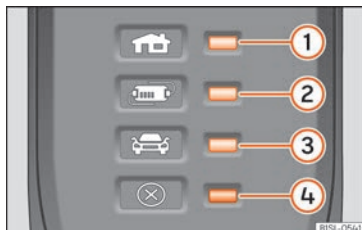

Fig. 219 On the charging cable for power sockets: Indicator lamps on the protection device.
»» Fig. 219:
The electronic protection device »» Fig. 219 ensures that the charging connector does not receive current until it is plugged in to the vehicle's charging connector.
One or more indicator lamps »» Fig. 219 ①, ② or ③ light up green. »»
Display »» Fig. 219	Meaning
If the red warning light ④ flashes or turns on without one of the indicator lamps »» Fig. 219 ①, ② or ③ also turning on continuously on the status indicator, there is a fault.